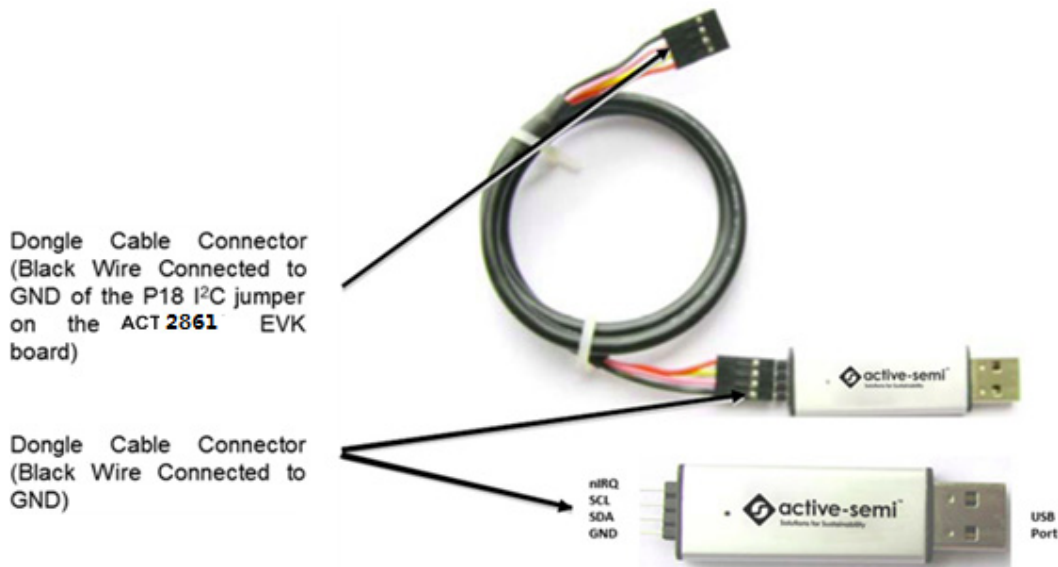

Figure 3 – USB-TO-I2C Dongle Connection
3. Connect the USB-TO-I2C dongle to the EVK J5 connector. Refer to Figure 3 to ensure the correct cable connector polarity. As a guide, use the “Active-Semi” logo on the top of the dongle to ensure the black wire is connected to the Dongle GND pin.